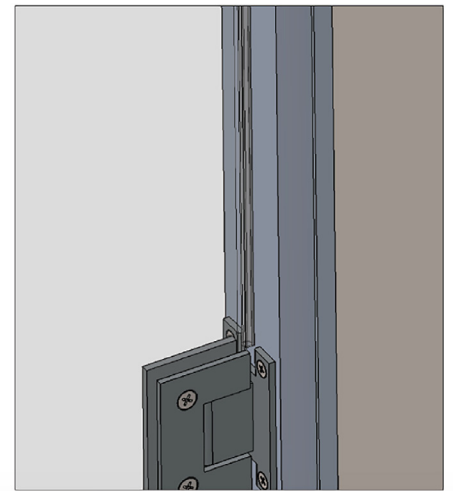

FIGURE 17B
ZV SDB Bulb Seal (N) - This is to be placed on hinge edges of glass. You will need to cut into 3 pieces that will fit the small areas from top hinge to top of door, bottom hinge to bottom of door and the large area between hinges. Remove red covering to expose adhesive and apply to edge of glass. (See Figure 17B)